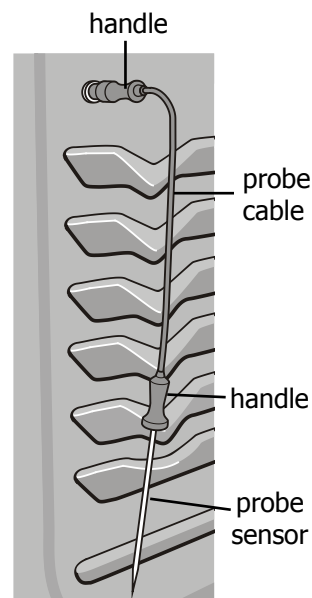

Fig. 2
- To avoid damaging the probe, **do not** use kitchen utensils such as tongs to pull on the probe cable or handles. Always insert and remove the probe using the provided handles (See Fig. 2) and always use a pot holder to protect hands from possible burns.